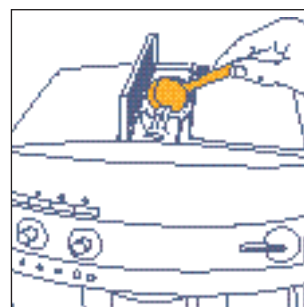

Fig.19
2. Lift the lid in the centre and to prepare one espresso coffee, add just **one level measure** of ground coffee (Fig. 19). To prepare two cups of espresso coffee, add **two level measures** of ground coffee into the funnel and then proceed as described in paragraph 5.